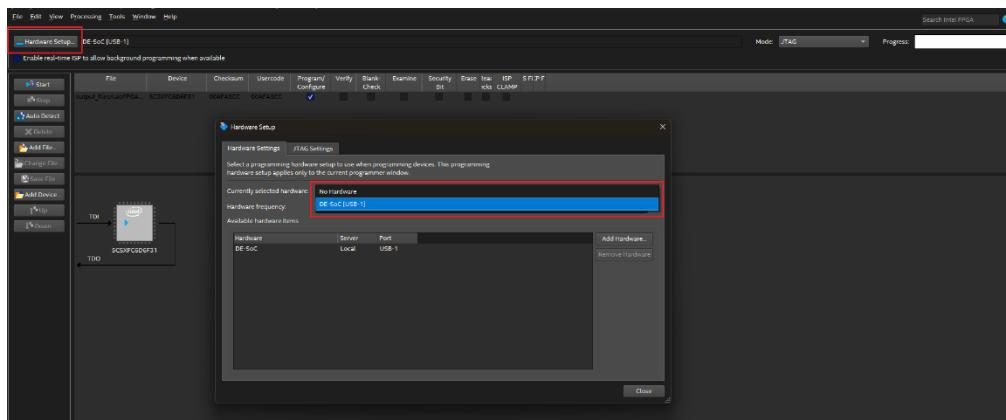

Figure 15. Select Hardware
32. Once the Programmer window opens, click on **Hardware Setup** in the upper-left corner. A new window will appear — under Currently selected hardware, choose the FPGA connected to your computer, as shown in Figure 15. Then click Close.